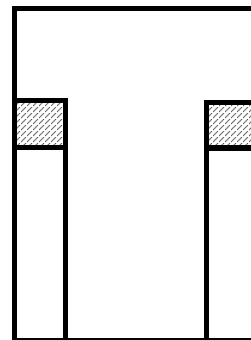

Fig.17
- (3) System breakdown, in case of a severe system failure, the display screen will go black, except for 2 red squares indicator. A manual backup procedure must be used for docking guidance. (Fig.17)